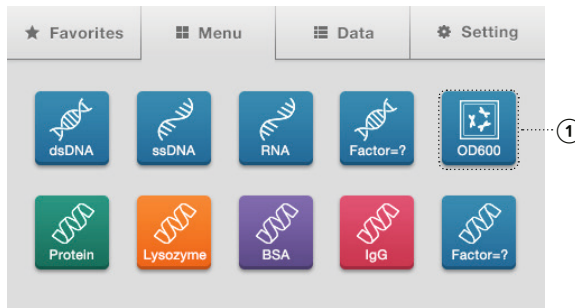
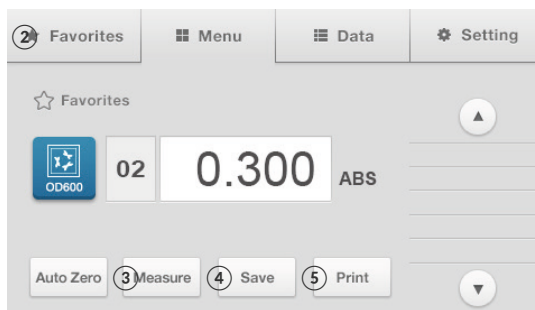

Fig. 5.2
Fig. 5.3
1. [Figure 5.2] Press the ① [OD600] icon after selecting an additional menu on the screen.
3. Close the cell cover and press ③ [Auto Zero] to measure. Remove the Cuvette when the measurement is complete.
4. Put the sample into a 10 mm Standard Cuvette and insert the Cuvette into the square cell holder. ④ Press the [Measure] button to measure. Remove the Cuvette when the measurement is completed.
5. [Fig. 5.3] To continue measurement, repeat the operation. To finish measurement and save the data, press the [Save] button.
6. [Figure 5.3] To conduct new measurement, press the ② [Favorites] icon in the upper-side menu to open the main menu.